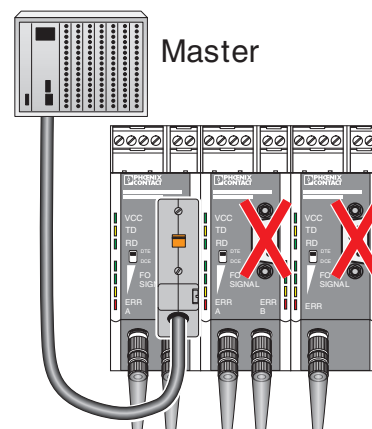

Figure 12 Connecting the data cables
- Connect the RS-232 connection via the 9-pos. D-SUB pin strip on the top of the device (see Figure 12).